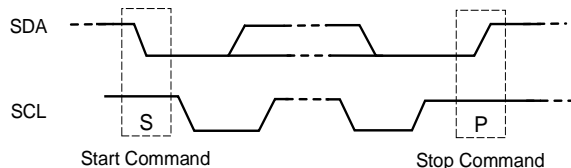

Figure 12: Start and Stop Commands
The start (S) and stop (P) commands are signaled by the master device, which signifies the beginning and the end of the I²C transfer. The start command is defined as the SDA signal transitioning from high to low while SCL is high. The stop command is defined as the SDA signal transitioning from low to high while SCL is high (see Figure 12).